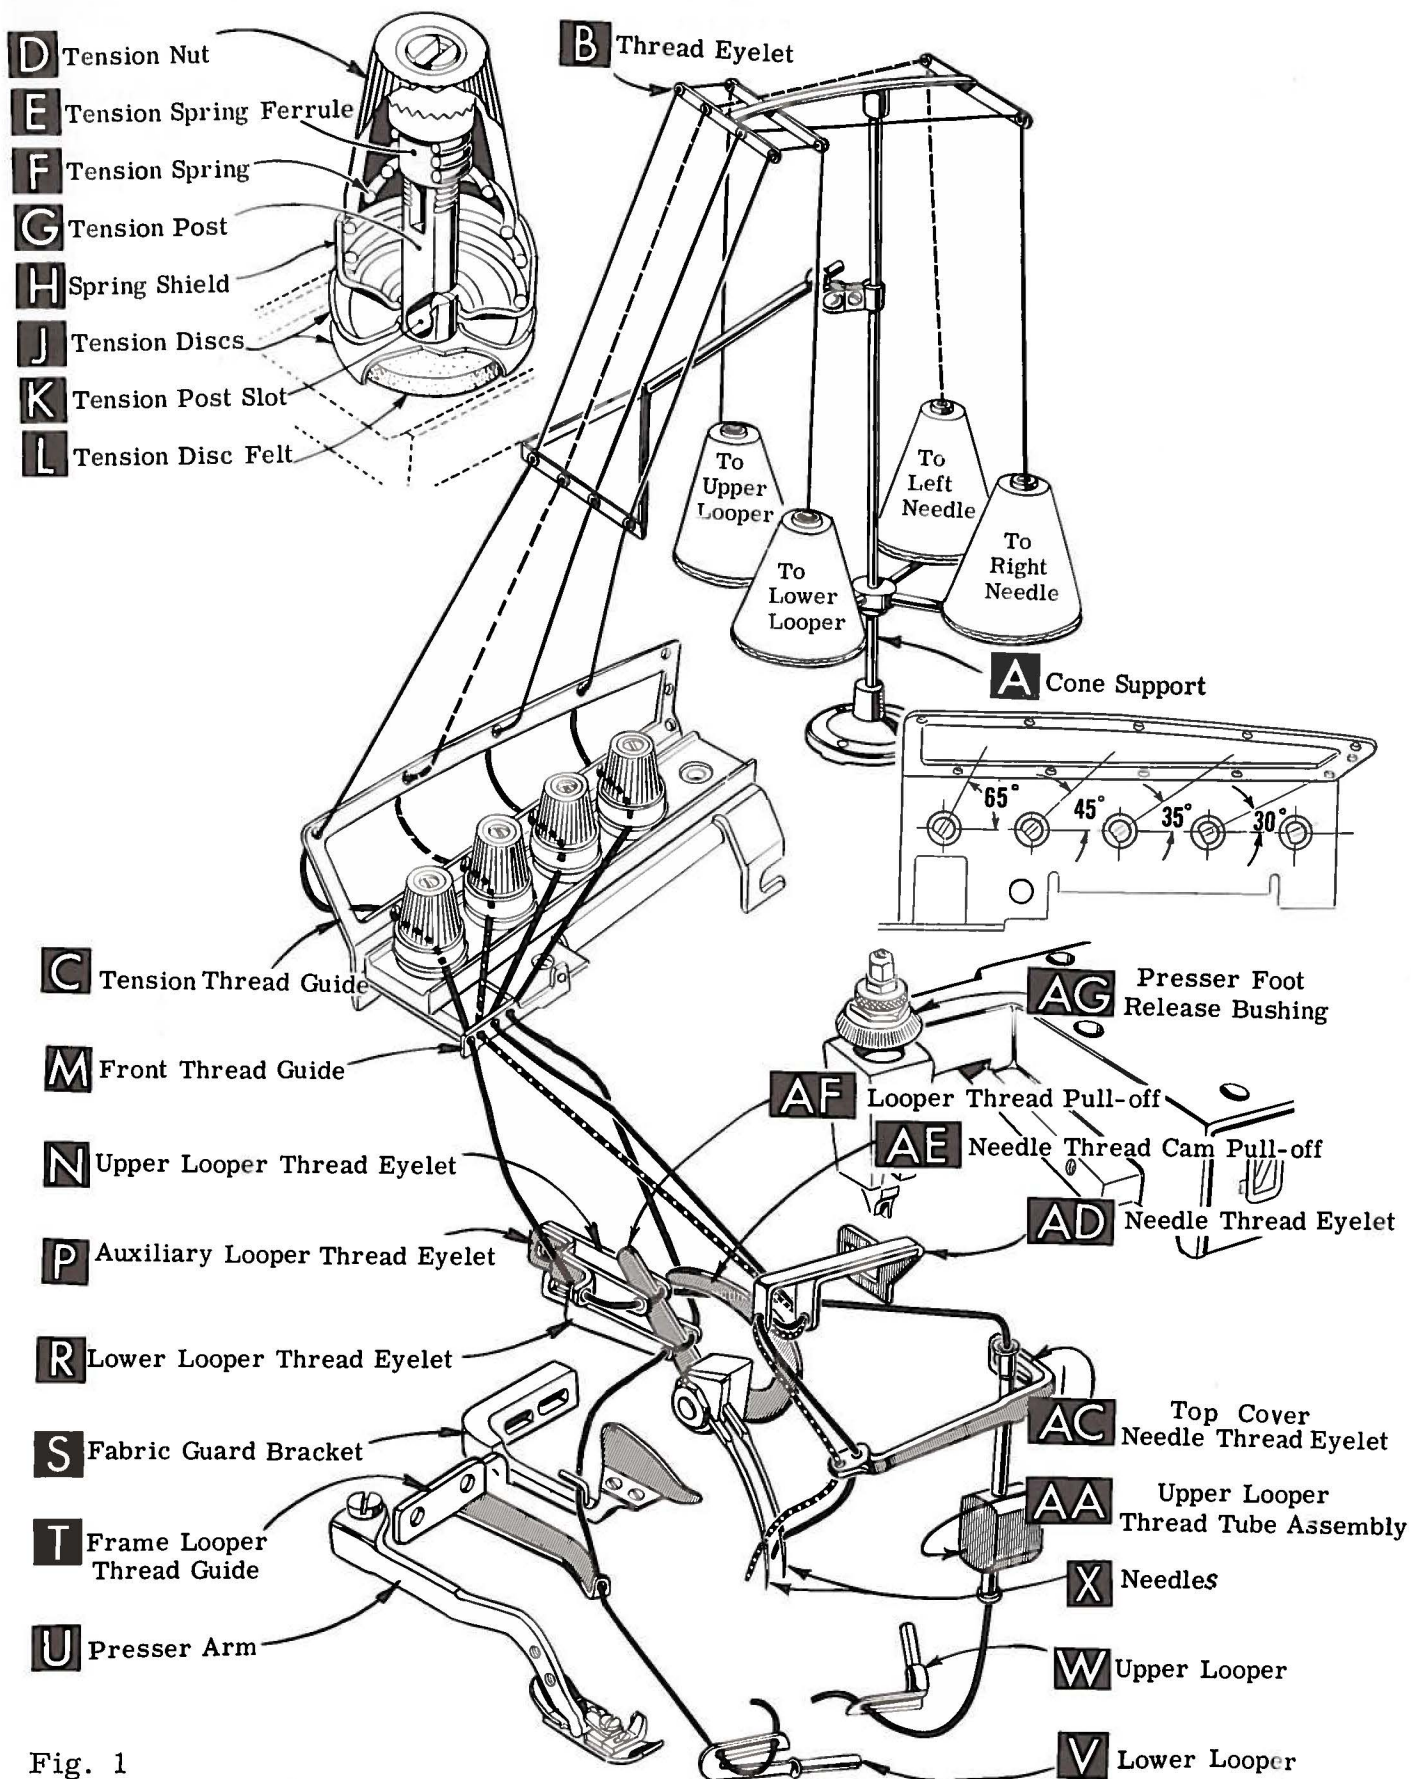

Fig. 1
Release pressure on presser foot by turning presser foot release bushing (AG, Fig. 1) and swing presser arm (U) out of position. Turn handwheel in operating direction until needle is at its lowest point of travel. Using hexagonal socket wrench No. 21388 AU, furnished with machine, loosen needle clamp nut about 1/4 turn. Again turn handwheel until needle is at high position; withdraw needle.
After thread comes from cones on cone support (A, Fig. 1), the needle threads are threaded through the back bar of the thread eyelet (B), under the middle bar and through the center holes of the front bar. The looper threads come from the cones, through holes of the middle bar from back to front and then through the two outside holes of the front bar. Next it is threaded through the upper holes of tension thread guide (C) front to back and then through the lower holes from back to front. The threads continue between the tension discs (J), through tension post slot (K) in tension post (G) and on through front thread guide (M).
Only parts involved in threading are shown in the threading diagram (Fig. 1). Parts are placed in their relative positions for clarity.
Be sure the threads, as they come from the tension thread guide (C), are between the tension discs (J) and in tension post slot (K) in tension post (G). The tension posts should be positioned so the tension post slot will be at the approximate angle for the different threads as indicated in Fig. 1.
Double end of thread and lead it through both eyes of lower looper thread eyelet (R, Fig. 1) from right to left. NOTE: Thread must pass in front of looper thread pull-off (AF). Lead thread behind fabric guard (S) and through hole of frame looper thread guide (T). Turn handwheel in operating direction until heel of lower looper (V) is all the way to the left; then thread through both eyes from left to right. Left eye of lower looper can be threaded easily if tweezers are in left hand.
Turn handwheel in operating direction until needles (X, Fig. 1) are in their highest position. Insert needle threads from right to left, through both eyes of needle thread eyelet (AD), under neck of top cover casting; and then down through holes in top cover needle thread eyelet (AC). The right needle thread should be threaded through the right hole and the left needle thread through the left hole of the top cover needle thread eyelet. Thread needles from the front.
The amount of tension on needle and looper threads is regulated by the tension nut (D, Fig. 1). Tension on threads should be only enough to secure proper stitch formation.
Be sure machine is threaded according to threading diagram (Fig. 1). With thread tensions light, set looper thread eyelets (N and R, Fig. 1) about horizontal and in the middle of their front to back locations. Operate machine slowly, without presser foot in place, to make sure that chain forms and moves off the tongue freely. Swing presser foot into position, insert material, and sew slowly.
While sewing on material, check needle thread control as follows: Usually all needle thread is drawn on needle down stroke. At top of needle stroke, thread should be just tight enough to feed chain off stitch tongue. Stitch tends to pull down slightly if excessive thread is pulled on the up stroke. With needle at bottom of stroke, position needle thread eyelet (AD, Fig. 1) so that needle cam pull-off (AE) just contacts needle thread.
With material under presser foot, set lower looper thread eyelet (R, Fig. 1) back far enough so thread is a little slack when looper thread pull-off (AF) reaches its most rearward position. Looper thread pull-off (AF) is set about 1/8 inch distance behind needle thread cam pull-off (AE). Frame looper thread guide (T) should be set with its eyelet approximately 1/8 inch to the right of lower looper (V) heel eyelet at the time lower looper is at extreme left end of its travel.
Before proceeding to adjust upper looper thread eyelet (N, Fig. 1) balance all four tensions to give a normal appearing stitch. Moderate change in these tensions will not markedly effect the purl.